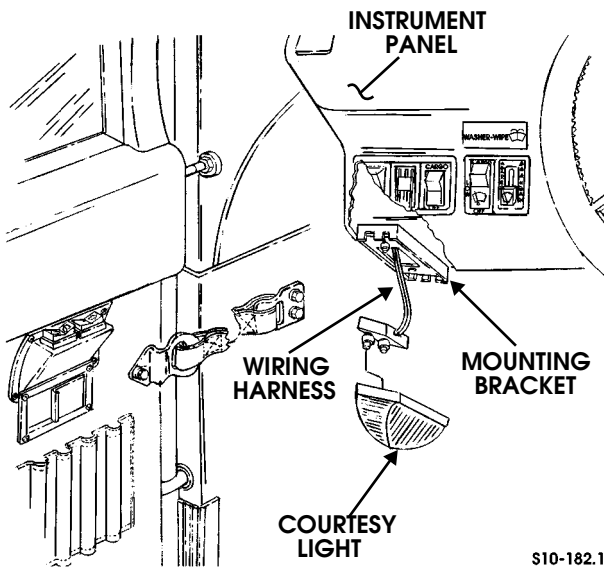

Figure 10-175: Front Driver Side Courtesy Light Replacement
1. Carefully pry courtesy light from mounting bracket (Figures 10-175 and 10-176).
1. Connect courtesy light to wiring harness (Figures 10-175 and 10-176).